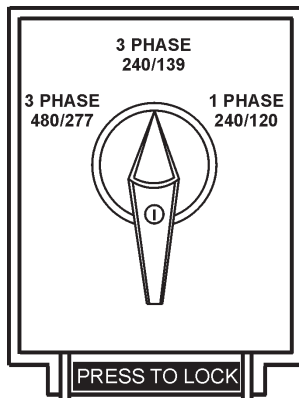

Figure 15. Voltage Selector Switch
A wide range of voltages are available to supply voltage for many different applications. Voltages are selected by using the **voltage selector** switch (Figure 15). To obtain some of the voltages as listed in Table 6 (see below) will require a fine adjustment using the **voltage regulator (VR) control knob** located on the control panel.
The **voltage selector** switch (Figure 15) is located above the UVWO Hard Wire Hook-up Panel. It has been provided for ease of voltage selection.